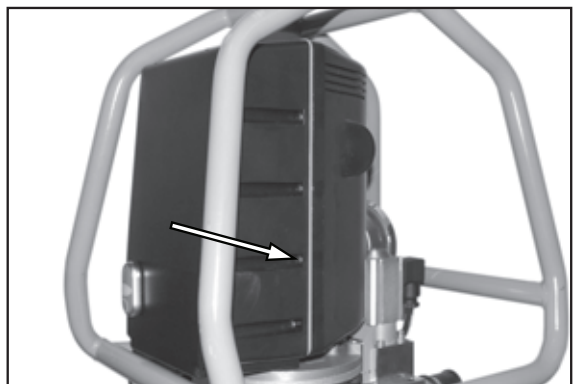

Figure 11.
2. See Figure 11. Remove the 10 screws.